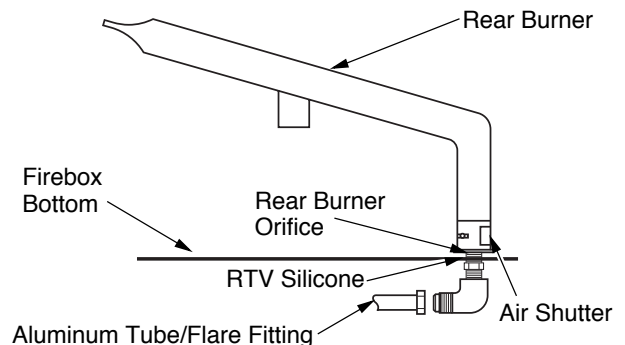
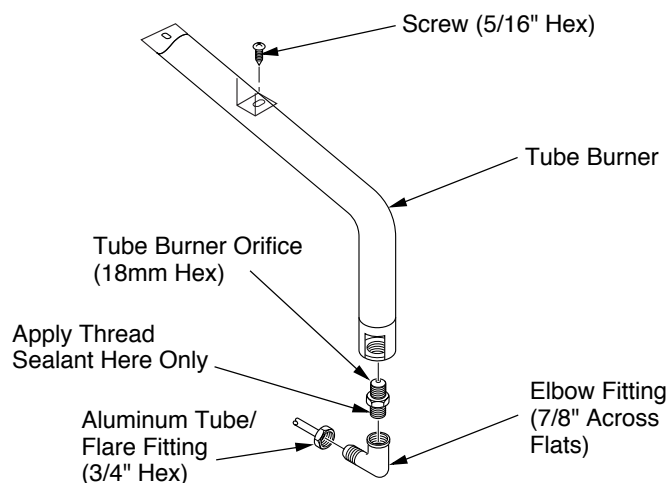

Figure 5 - Removing/Applying RTV Silicone and Locating Air Shutter
Figure 6 - Removing/Replacing Rear Burner Assembly
1. Inside the control compartment under firebox bottom, locate aluminum tube with flare fitting and brass elbow on the right side. Loosen flare fitting and disconnect aluminum tube from elbow fitting. Use a 3/4" open end wrench (see Figure 5).
2. Carefully cut away RTV silicone from the orifice where it passes through the firebox bottom (see Figure 5). Remove elbow fitting with orifice from burner inlet by turning counterclockwise. Use a 7/8" open end wrench (see Figure 6, page 3).
4. Apply a light amount of propane/LP resistant sealant to long threaded end of orifice (see Figure 5, page 2). Thread elbow fitting with orifice into burner inlet and tighten by turning clockwise. Use a 7/8" open end wrench. Make sure flare end of elbow faces left.
5. Locate air shutter at end of tube burner (see Figure 5, page 2). Loosen screw and adjust air shutter to 3/16" open position. Retighten screw.
1. Apply RTV silicone to orifice where it passes through the firebox bottom (see Figure 5, page 2).